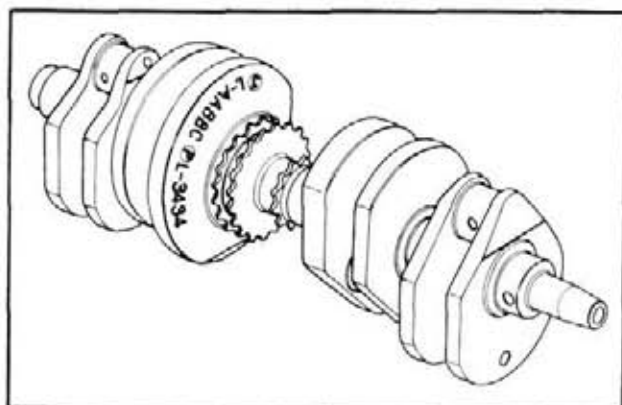

Fig. 3-81
The size marks of crankshaft journals were changed from ㄥ (I) □ (RO) 八 (HA) and 二 (NI) to A, B and C. These marks are stamped on the side of the crank weight on the drive sprocket side together with the crankpin size marks. (Fig. 3-81)
- Numbers (3, 4, 5) are stamped on the side surface of the crank weight, this indicates the crank pin size. (Fig. 3-81)